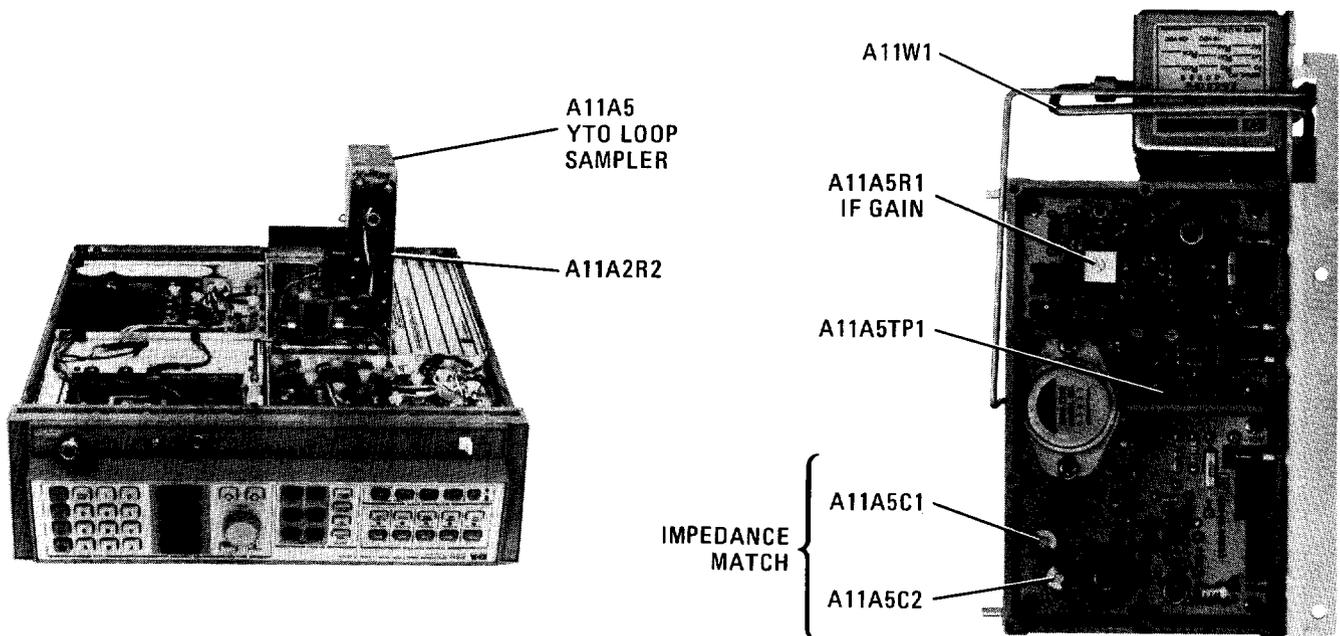

FIGURE 53. LOCATION OF YTO LOOP ADJUSTMENTS
3. Remove A11W1 rigid cable (refer to Figure 53 for location). Remove 50 ohm termination from 1st LO output on front panel and on the YTO OUT Port of A11A1 Coupler/Isolator. Jumper A12TP2 to A12TP3 (Lock Indicator Disable).